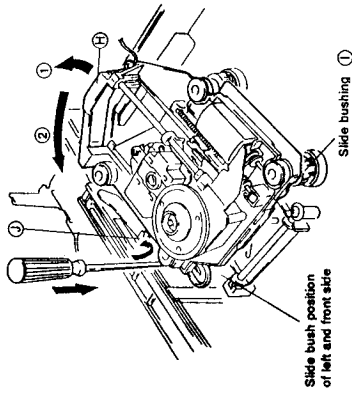

Fig. 2-4
- 4 Push the slide bushing at the front left with a thin implement such as a ⑥ screwdriver (Fig. 2-4).
- 5 Pull up the rear side H of the servo mechanism assembly. (Arrow ① in Fig. 2-4)
- 6 To release the engagement at section ① of the servo mechanism assembly, turn the assembly counterclockwise on the slide bushing ⑦ (Arrow ② in Fig. 2-4)